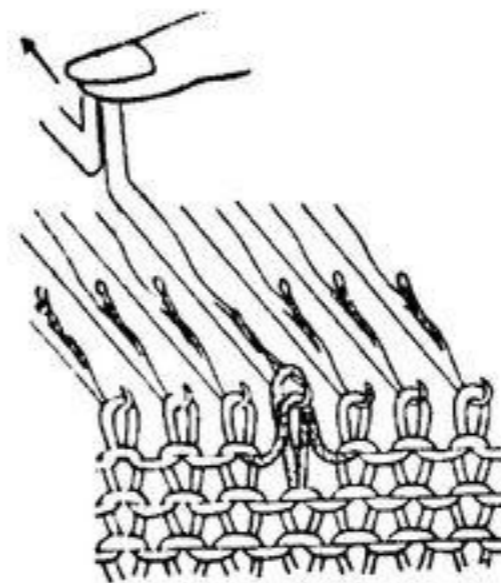
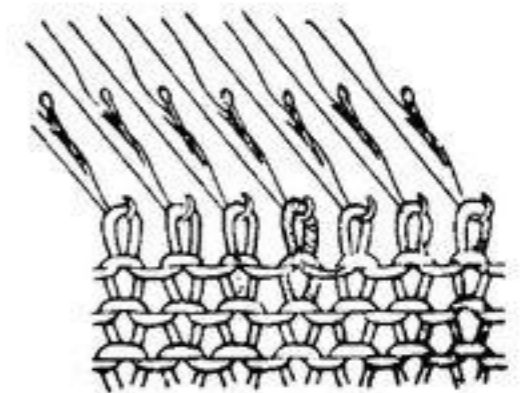

Fig. 48-4
Fig. 48-5
4. Push the needle back until the loop passes over the closed latch as shown in Fig.48-4, and reforms the stitch. (Fig. 48-5)